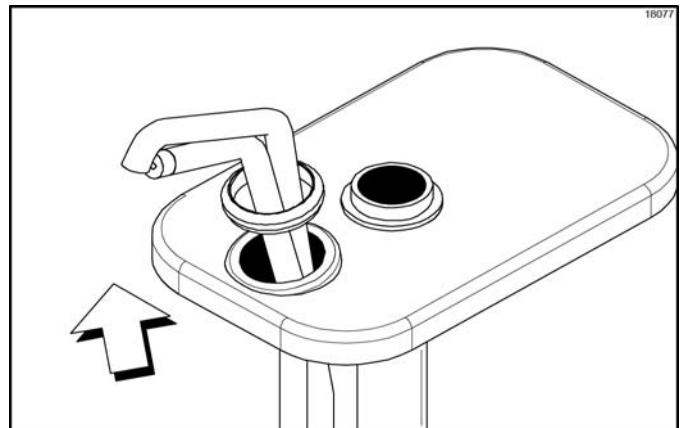

Figure 6-98
9. Remove the discharge tube lock nut by turning it counterclockwise. Remove the discharge lock nut from the discharge tube. (See Figure 6-98.)